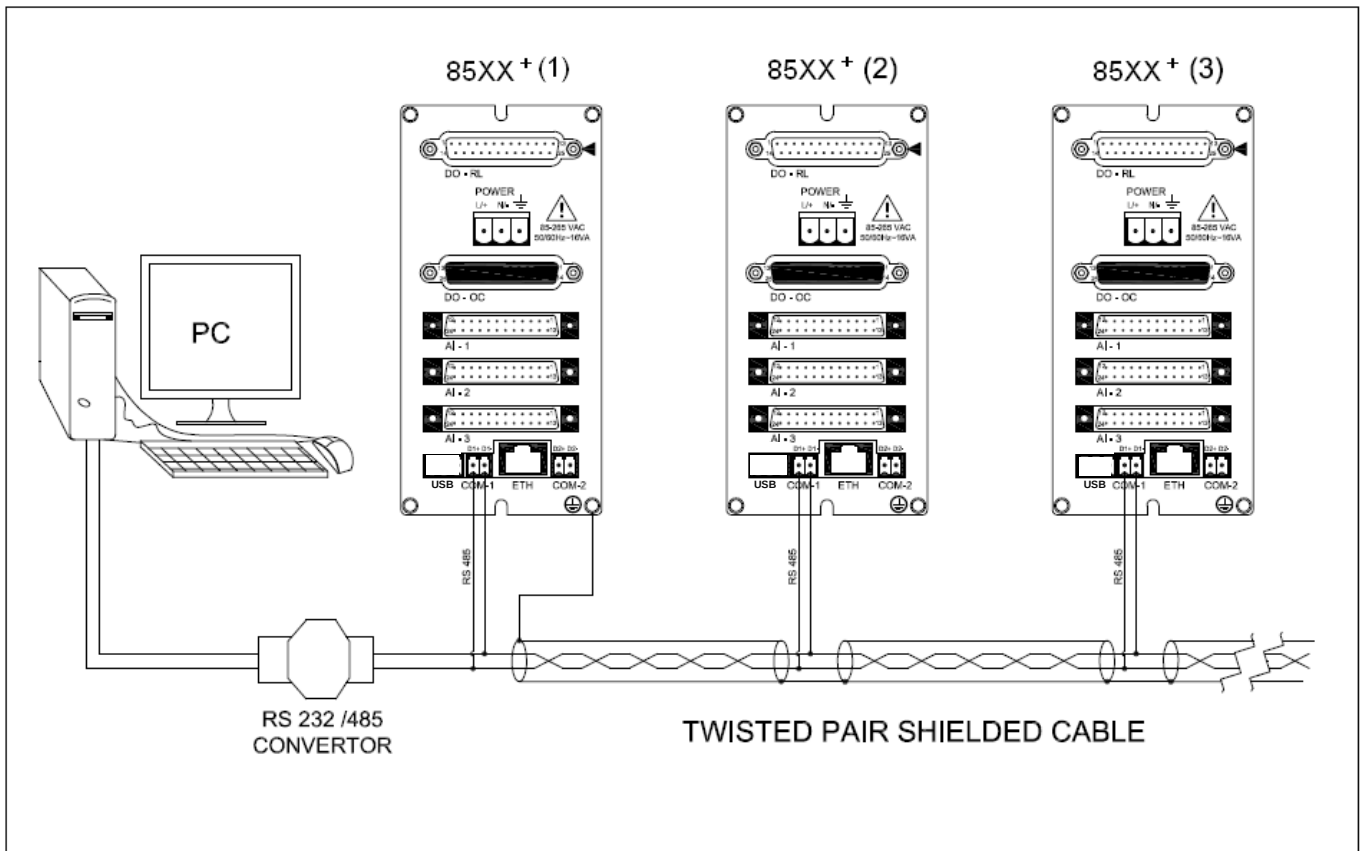

Figure 14 Communication Cable Connection
- 1) Connect Digital Output- Relay cable and Open Collector / Analog Output cable , Analog Input cable and Communication cable to 85XX⁺ as shown in Figure 9, Figure 10, Figure 11 ,Figure 12, Figure 14 respectively.